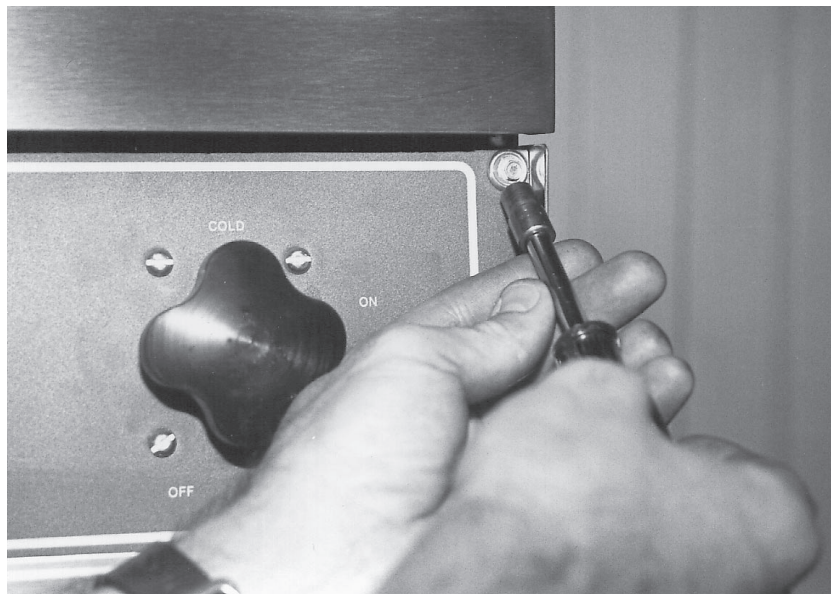

Fig. 9
1. With a ¼" socket, remove (2) screws from the upper left and right hand corners of the panel. (Fig. 9)